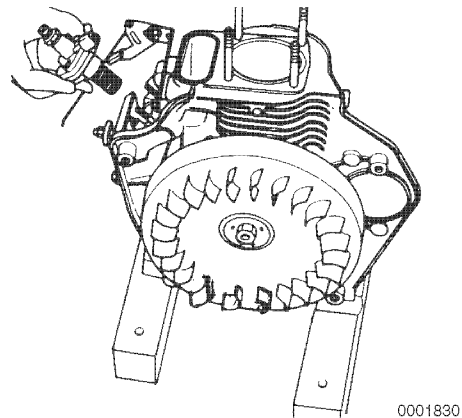

Figure 7-16
8. Remove the fuel injection pump (Figure 7-16).